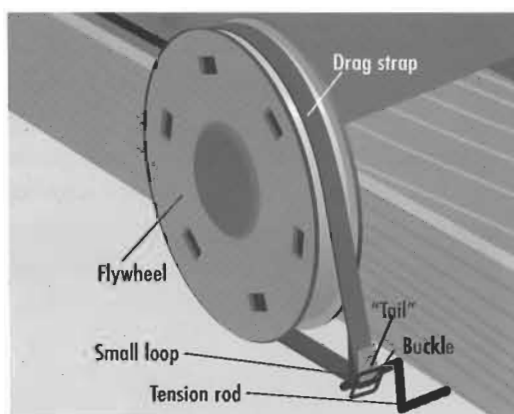

Figure 1
3. Disconnect the drag strap and remove it from the flywheel. Be sure to note how the drag strap is routed on the WalkFit Classic (Figure 1).
1. Slide the small loop around the tension rod. Be sure the "tail" of the strap is toward the ceiling and the tension rod bends upward (Figure 1).
2. Slip the drag strap over the flywheel (Figure 1).